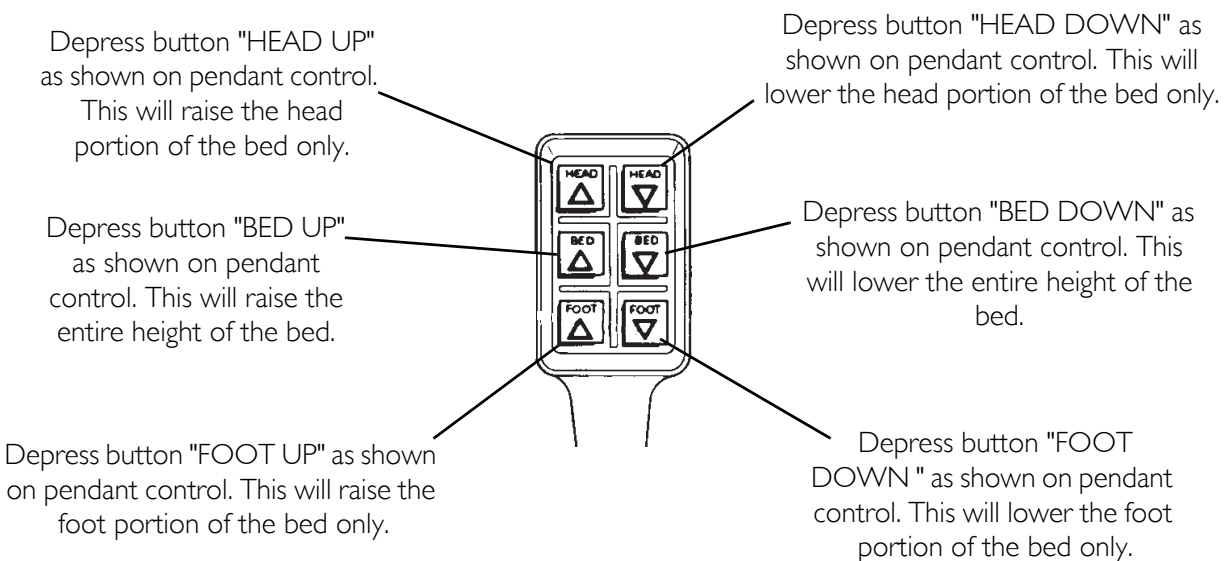

FIGURE 2.2 Using the Pendant
NOTE: For this procedure, refer to FIGURE 2.2.
1. With the bed unoccupied, operate the bed through all phases of its operation as shown in FIGURE 2.2.